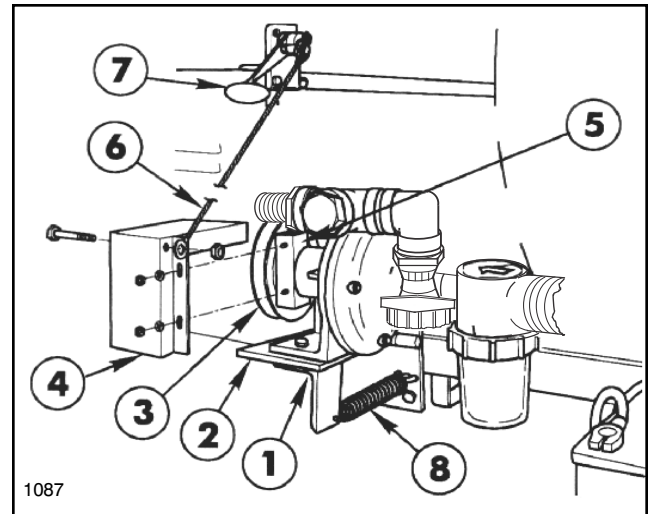

FIG. 6
4. Assemble the Pump Drive Pulley onto the Pump shaft with the Pulley’s **hub** facing **away** from the Pump (FIG. 6).
5. Assemble the Centrifugal Pump and the Spring Mounting Angle to the Pump Pivot Plate, using two (2) 3/8" x 1-1/2" cap screws, flat washers and lock nuts as shown in FIG. 6.
6. Using a straight edge as a guide, position the Pump Pulley so that it is in alignment with the Engine’s Drive Pulley. When alignment is correct, tighten the two (2) set screws in the Pump Pulley’s hub.